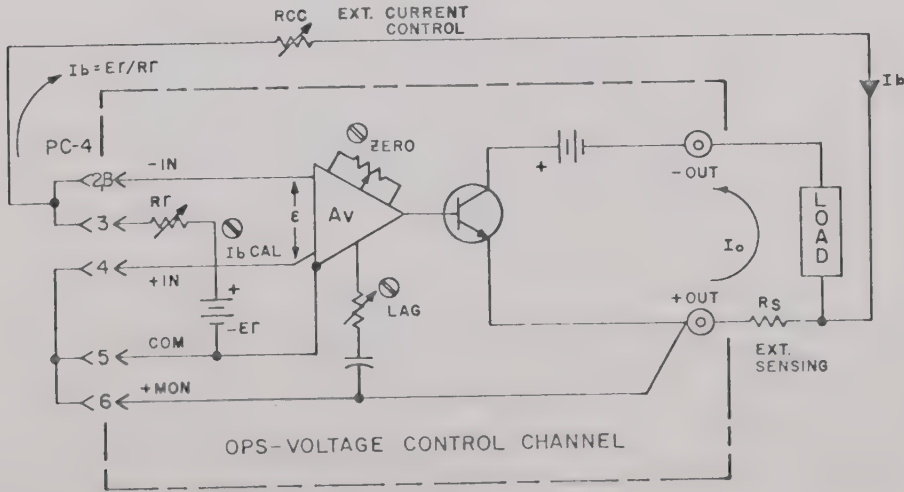

FIG. 3-15 EQUIVALENT DIAGRAM, OPS VOLTAGE CONTROL CHANNEL CONNECTED FOR EXTERNAL SENSING AND CONTROL.
- 3-57 COMPONENT SELECTION. The circuit shown in FIG. 3-15 is suitable for output currents from about 10 microamperes to the maximum rated output current for the given OPS model. The circuit components are selected as follows: